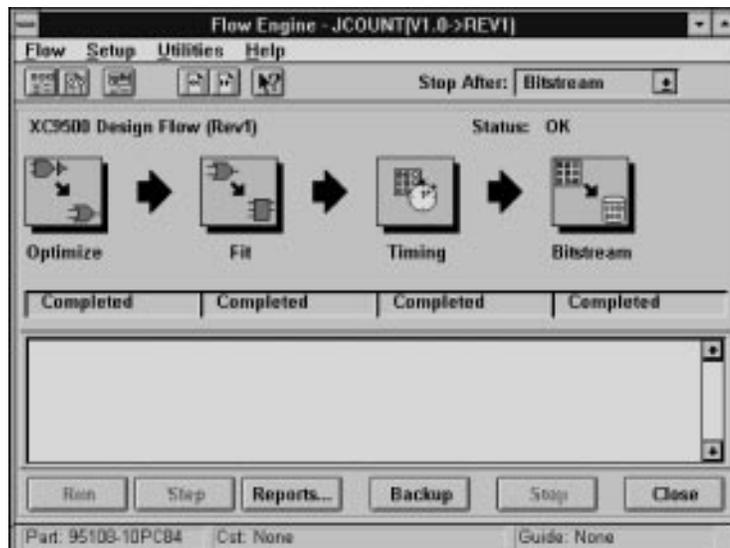

Figure 2-17 The Simplified Flow Engine with Report Browser
- Run: When all options are entered, click the Run button to implement your design. You will see the simplified Flow engine Dialog window along with the Report browser, as shown in Figure 2-17. As the simplified Flow Engine processes your design, you will see the reports highlighted as they are created.